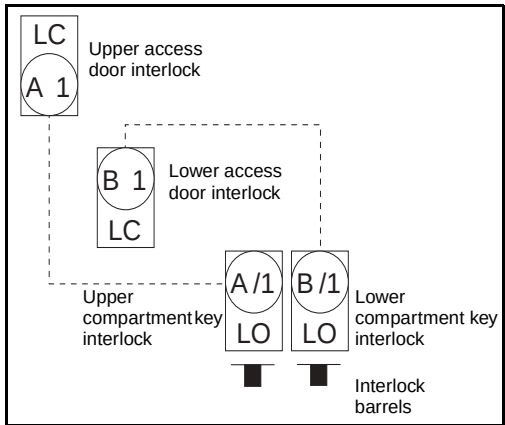

Figure 46: Interlock Status (Step 3)
3. Insert the interlock key(s) into the compartment key interlock(s) and lock open (LO) the interlock(s) to retract the interlock barrel(s) for racking (see Figure 46). Both interlock barrels should be retracted before attempting to remove the G&T device from the circuit breaker compartment.